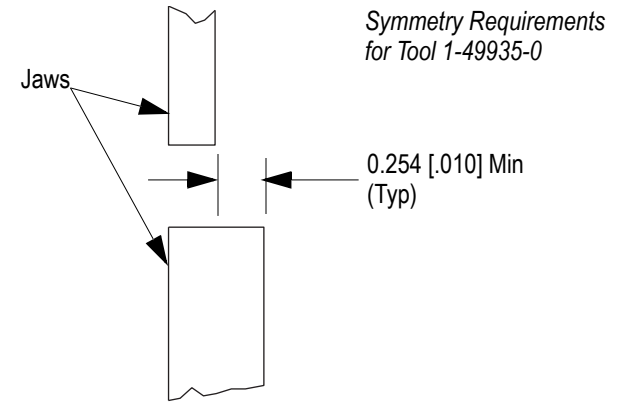

Figure 6
**NOTE** The jaws in tool 1-49935-0 are not symmetrically located; make sure that the tool conforms to the symmetry requirements shown in Figure 6.